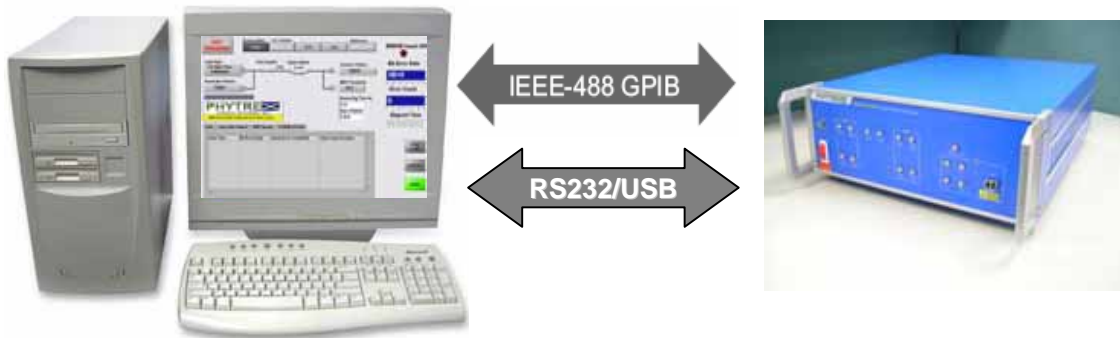

Figure 19: Remote access and custom application development with E-BERT VISA Driver for Labview
Step 2. Installation result in under the following folder Function panel >>All Functions>>User Libraries>>E-BER (Figure 19)